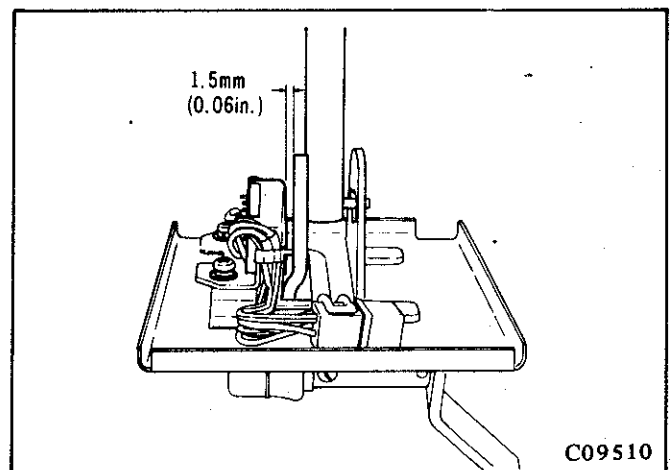

Fig. 7—Inhibitor switch attaching position
(5) Adjust the inhibitor switch to provide a 1,5 mm (0.060") clearance between the selector lever and switch as shown in Fig. 7. Tighten the switch attaching screws.